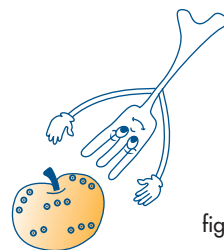

fig. 5
- 4) **Pierce foods with skins, shells or peel** (eg. apples, potatoes, tomatoes, frankfurters, fish, etc.) with a fork at several points to allow steam to escape from inside. This prevents these foods from exploding inside the oven (see fig. 5).